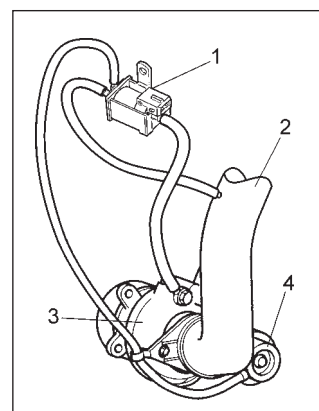

Fig. 1
A. Boost pressure control with electric switch over valve, Fig. 1